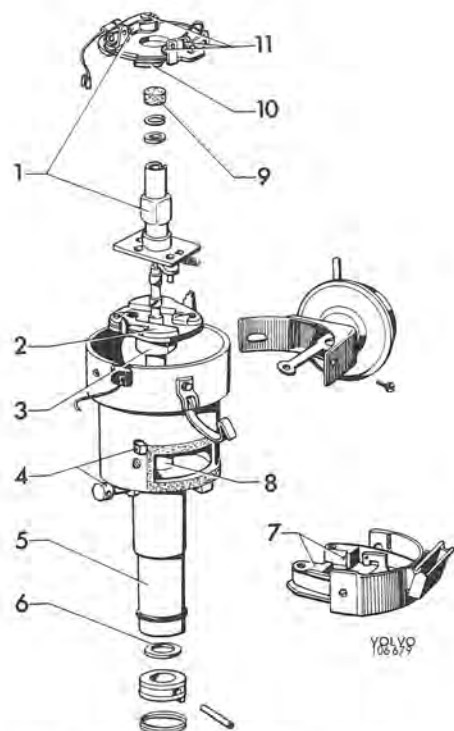

Fig. 3-67. Lubricating chart for distributor
1. Lubricate the parts of the distributor according to the instructions given in Fig. 3-67.